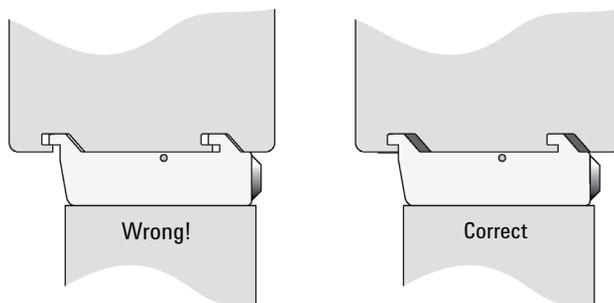

Figure 9 Attachment of Mounting Claws
- 4 Double check whether the leg claws are correctly attached to the X-axis (see Figure 9 on page 50).